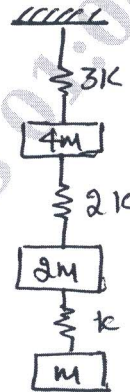

Fig.Q10(a)
- 10 a. Determine the natural frequencies of spring mass system in Fig.Q10(a) by Dunkerley's method.